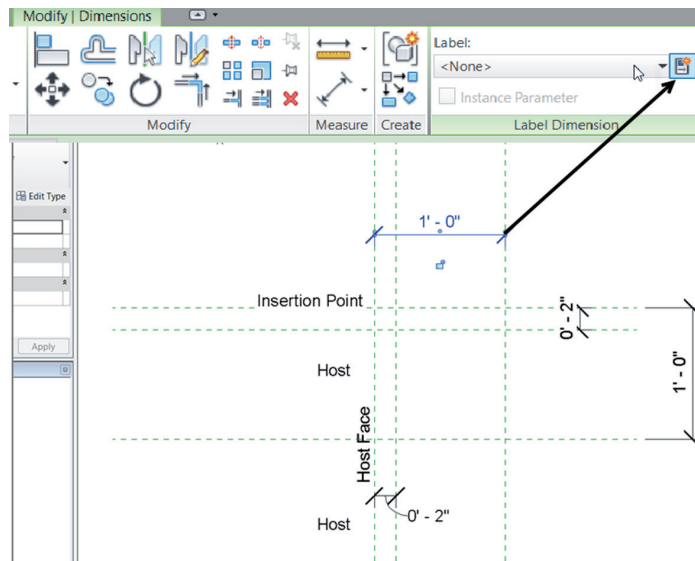

FIGURE BC2.6: Choosing Add Parameter on the Options bar
2. On the Options bar, click the Label pull-down menu, and choose Add Parameter (see Figure BC2.6).